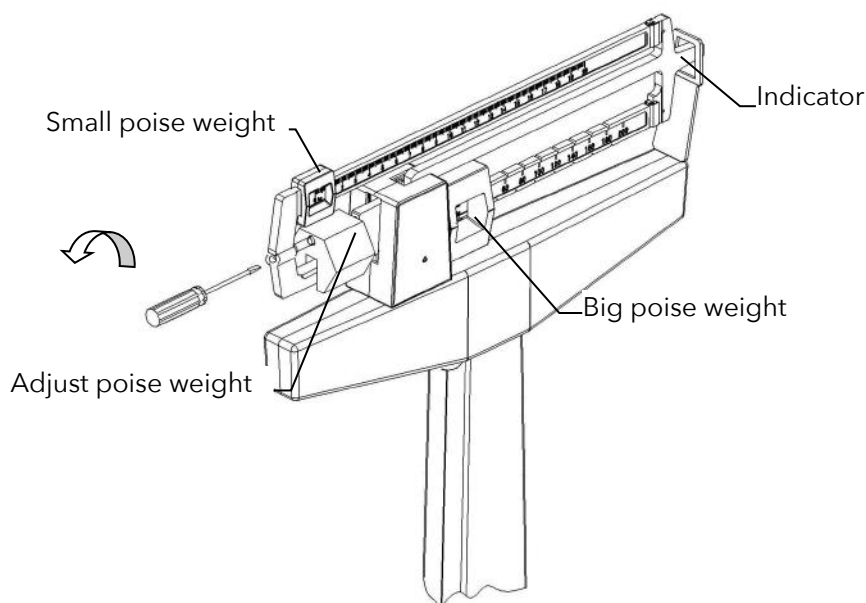

Fig.3
- 2** Place both poise weights on zero (Fig3). The beam pointer should float gently up and down and not touch the top or bottom of the trig-loop.